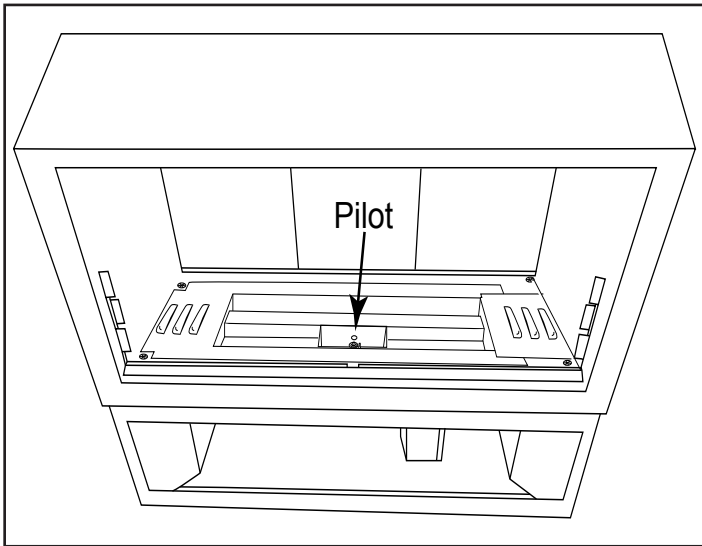

Fig. 29 Shows burner pan installed into fireplace.
Step 20: Install the burner pan back into the fireplace. See Fig. 29.